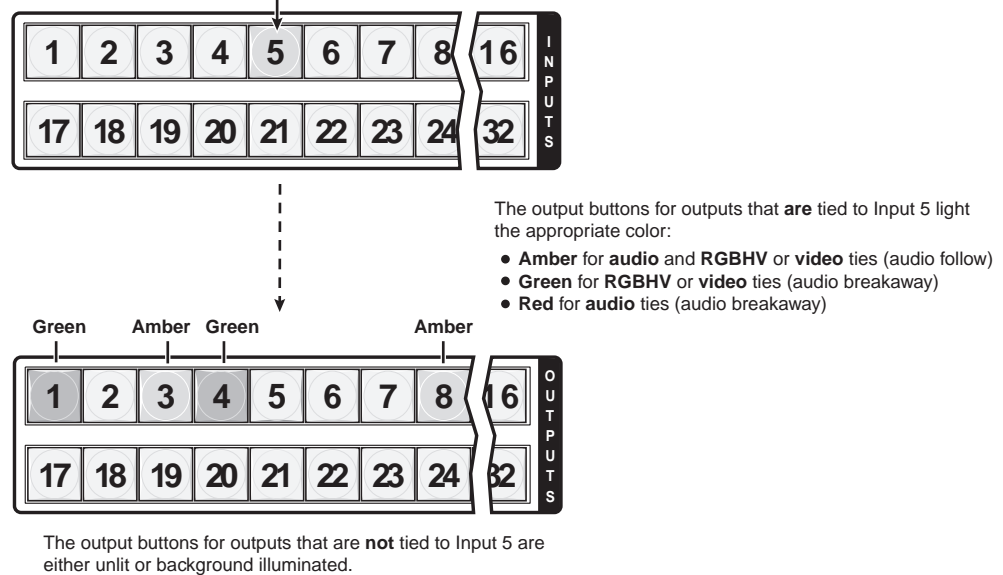

Figure 3-25 — Select an input
4. Press and release the input 5 button (figure 3-25).